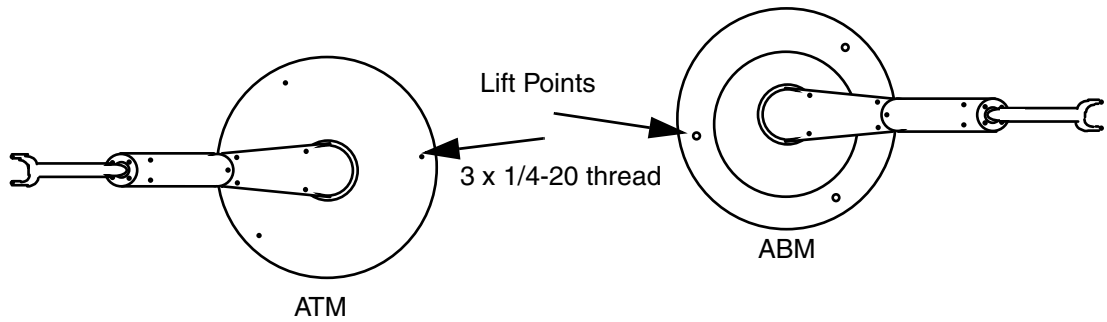

Figure 3-1: Lift Points for the Robot
3. Install the robot using a lifting device centered above the robot and attached to the lift points as shown in Figure 3-1.